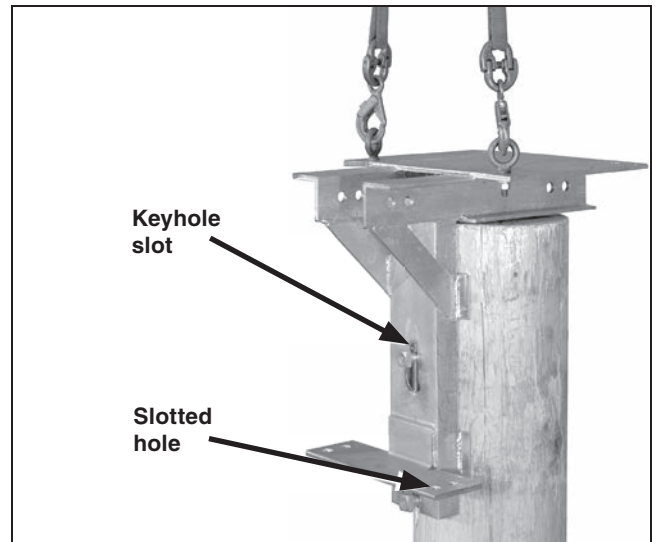

Figure 10. Hoist switch-mounting bracket.
**STEP 7.** Hoist and guide the switch-mounting bracket so the through-bolt heads enter into the keyhole and open slotted hole in the bracket. See Figure 10.